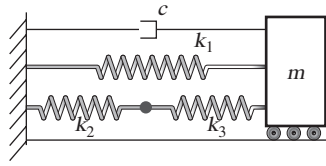

Figure P1.91
- 1.91** Calculate the natural frequency and damping ratio for the system in Figure P1.91 given the values $m = 10$ kg, $c = 100$ kg/s, $k_1 = 4000$ N/m, $k_2 = 200$ N/m and $k_3 = 1000$ N/m. Assume that no friction acts on the rollers. Is the system overdamped, critically damped or underdamped?